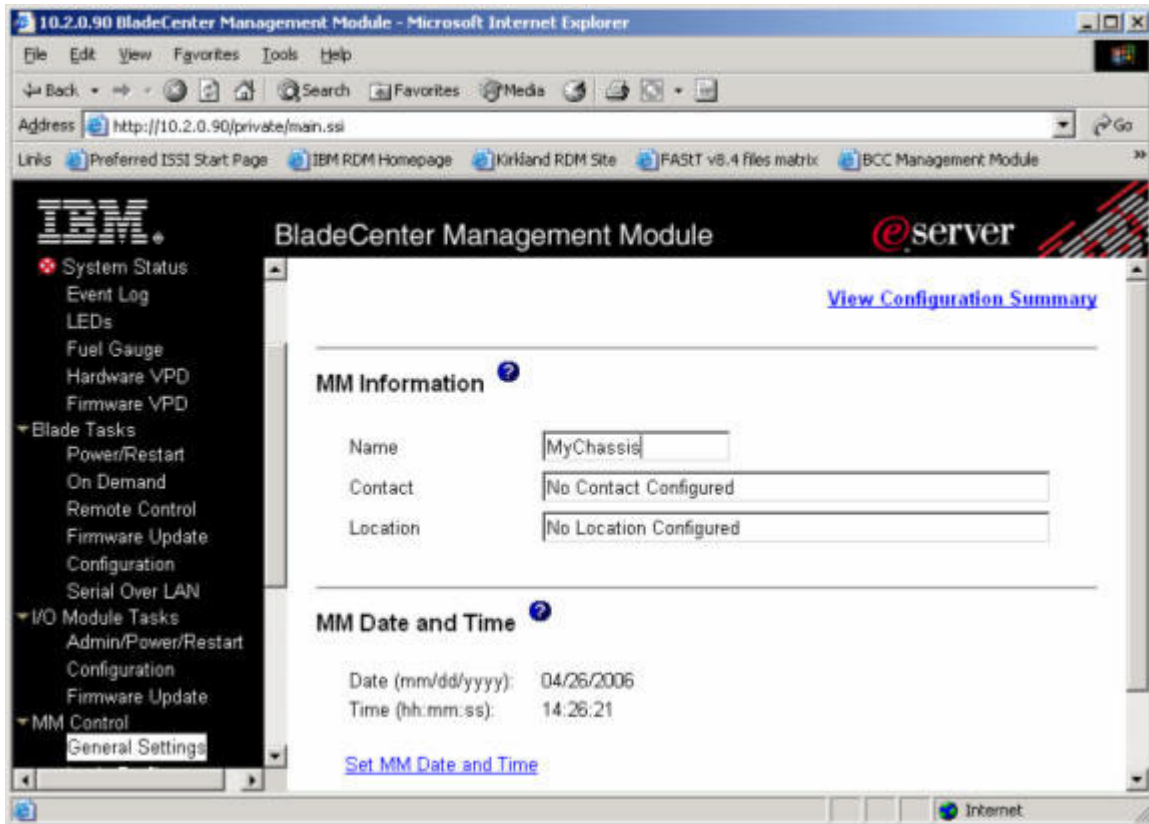

Figure 14. BladeCenter management module web interface - General settings
**Note:** The *Chassis Name* (as seen above in [Chassis Name] | [Instance Tag]) is the name given to the BladeCenter server in the Web interface (**MM Control->General Settings->MM Information->Name**; see Figure 14 on page 73) and might or might not be the same as the Ethernet host name given to the BladeCenter server. In addition to this fact, it is important that you make sure that the name you select for each chassis is unique.